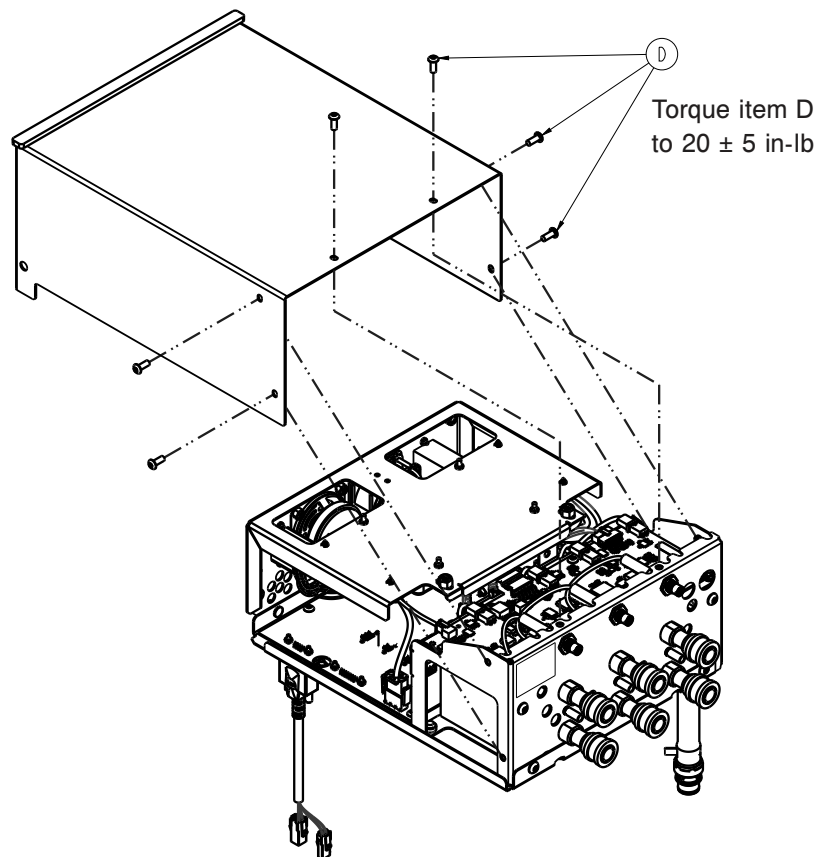

Figure 34 – Control box cover
15. Using a T25 Torx driver, remove the six screws (D) from the control box cover (Figure 34). Save the screws.